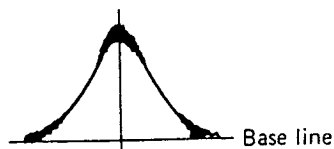

Fig. 10
- Note 1: Apply low-input signals from a sweep generator (with a small amount of noise superimposed on IF waveform as in Fig. 10), and adjust the waveform until it becomes maximum and symmetrical.